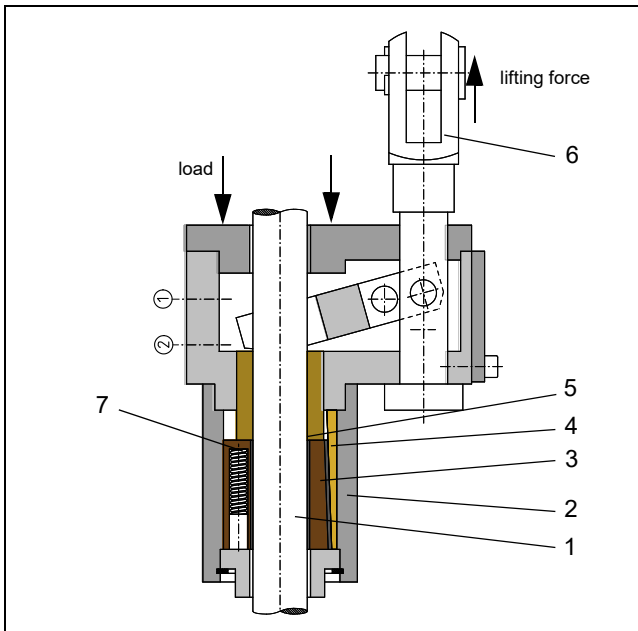

Fig. 2: Safety Catcher KRM (clamping released)
The piston shaft (1), Fig. 2 is surrounded by the housing (2), Fig. 2 in which several wedged clamping jaws (3), Fig. 2, each with one slide lining (4), Fig. 2 and one brake lining (5), Fig. 2, are assembled. The tensile force of the lifting member acting on the anchor bolt (6), Fig. 2 via a lever keeps the clamping jaws released. The springs (7), Fig. 2 are compressed in this position.